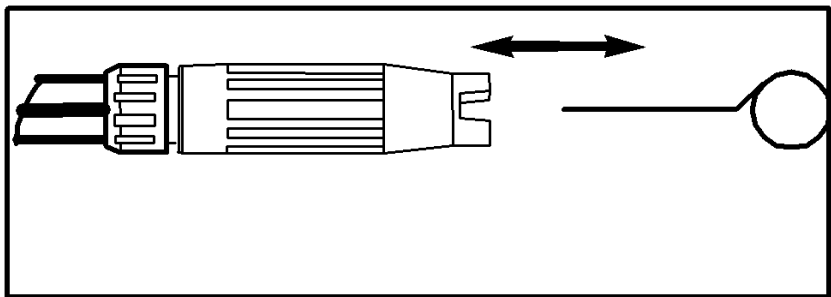

Figure 5 - Insert the tip cleaning tool into the nozzle opening and move it back and forth until the debris is removed
- Using the included tip cleaning tool or an unfolded paper clip, insert the wire into the nozzle opening and move it back and forth until the debris is removed (see fig. 5).